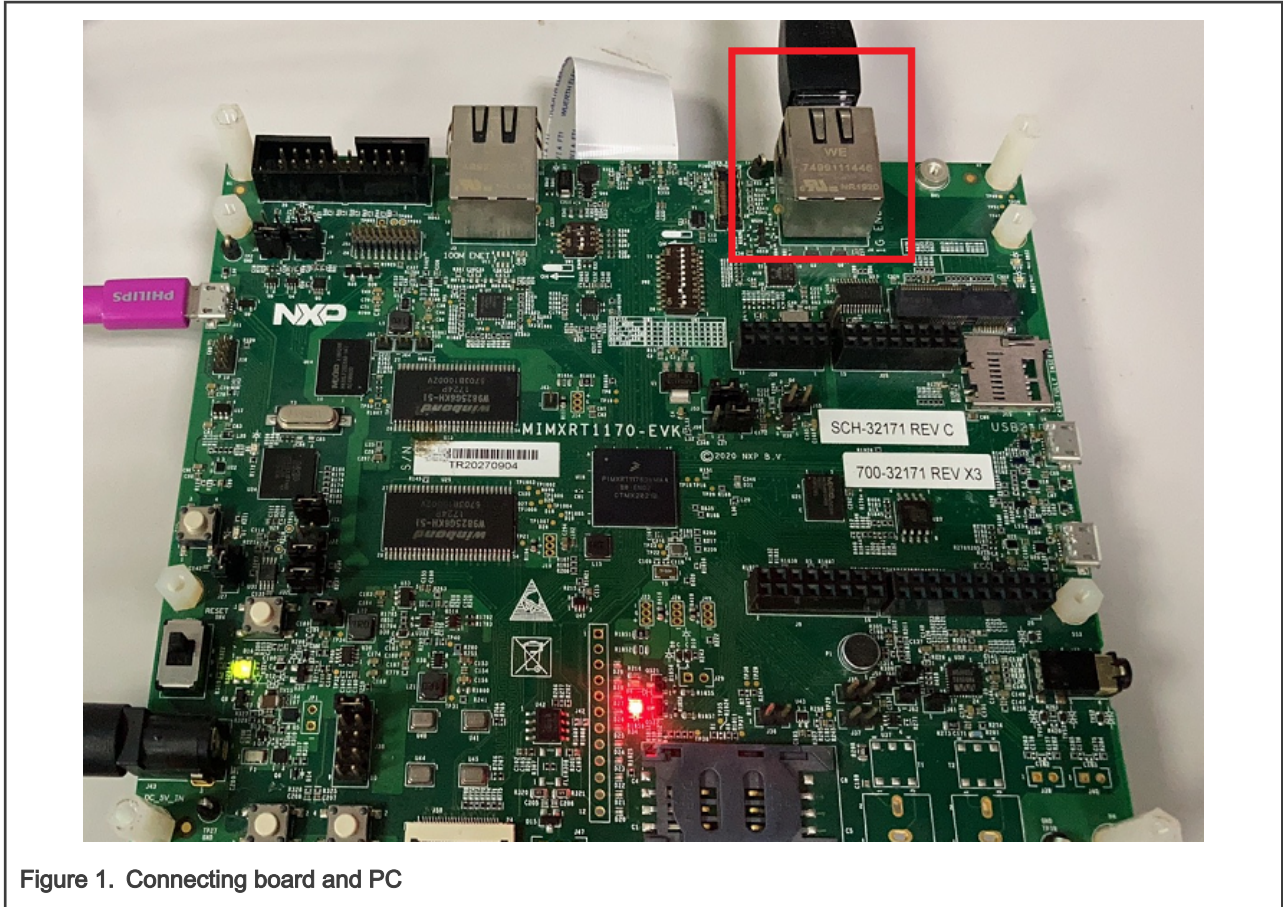

Figure 1. Connecting board and PC
5. Connect the PC and the target board, as shown in Figure 1.